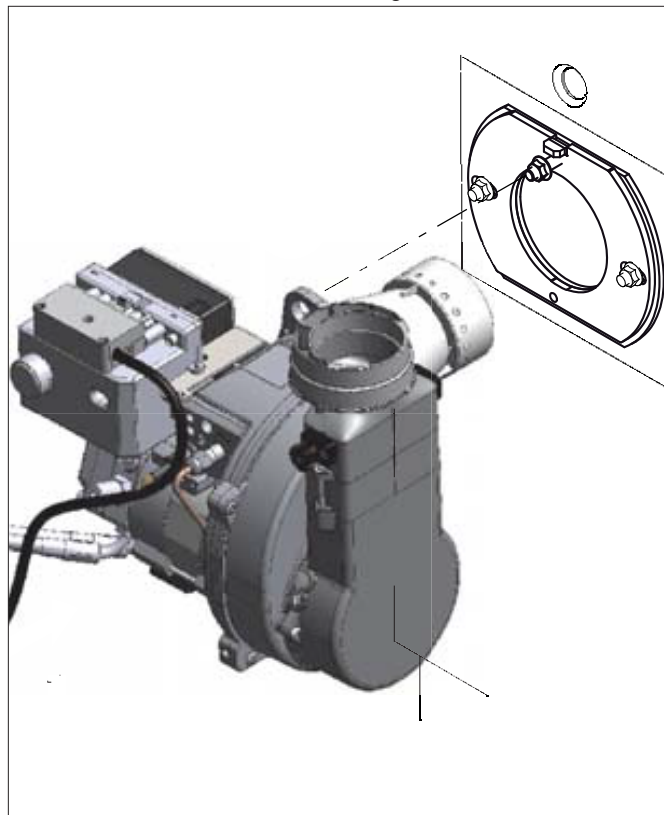

Figure 3-5: Burner removal
2. Rotate the burner clockwise and carefully withdraw the burner from the boiler. Refer to Figure 3-5.